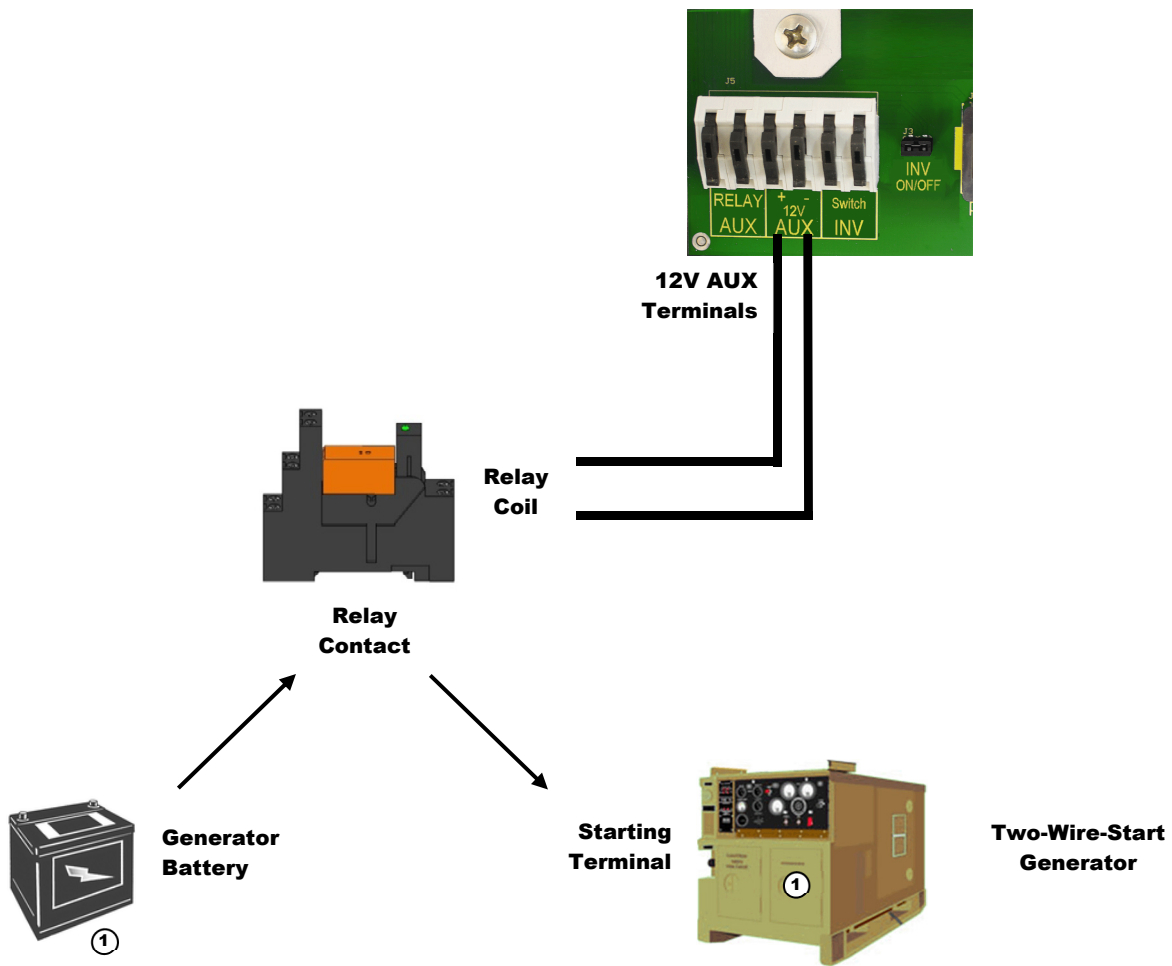

Figure 24 Two-Wire Generator Start (12V AUX)
The OutBack FLEXware Relay Assembly depicted in Figure 24 is sold for this purpose. The relay contacts can serve in place of the generator's start switch. The battery shown below (①) is depicted for clarity. In most cases the battery is part of the generator's internal starting circuit and is not an external component.